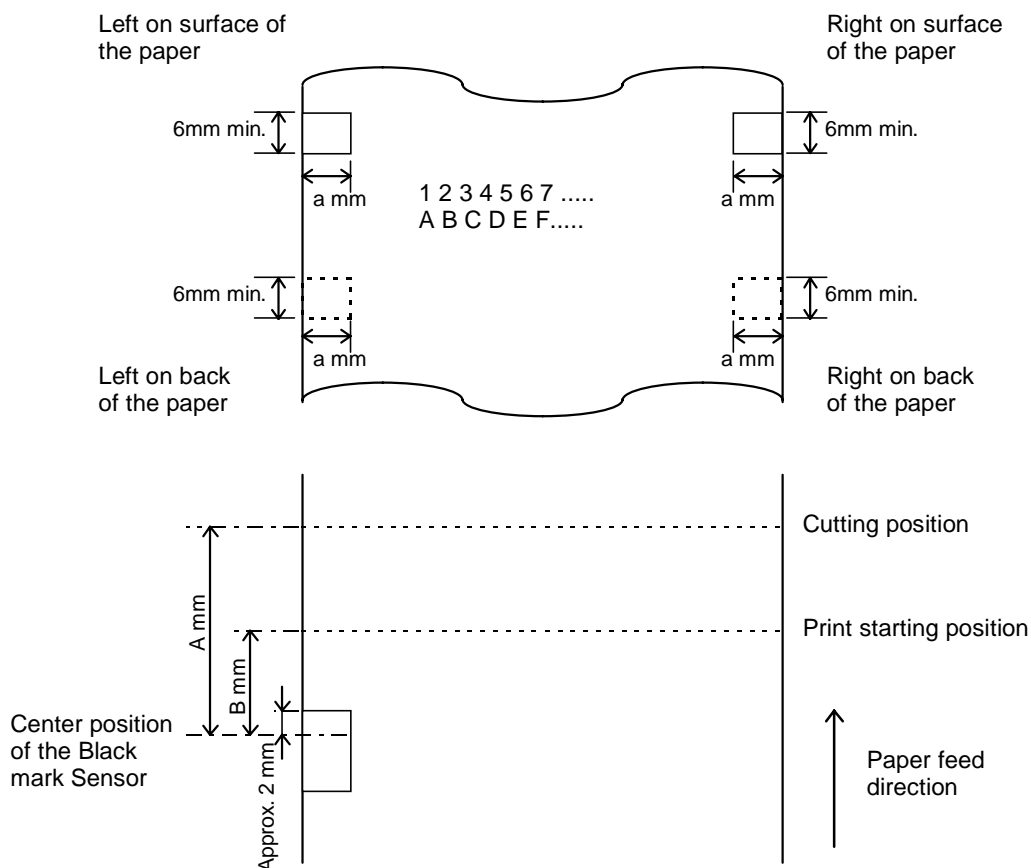

Figure 2.9.3 Size and Position for Black mark
- The size and position of the black mark sensor must be as shown in Figure 2.9.3 and in Table 2.9.1.